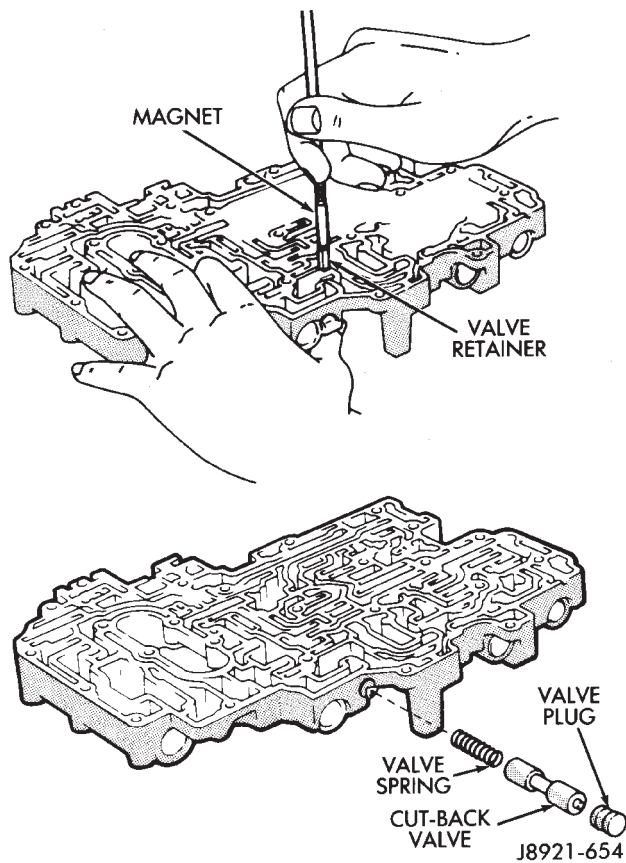

Fig. 11 Removing/Installing Cut-Back Valve
(11) Remove cut-back valve retainer and remove plug, cut-back valve and spring (Fig. 11).
(5) Install cut-back valve spring, valve and plug (Fig. 11). Press plug inward and install retainer.